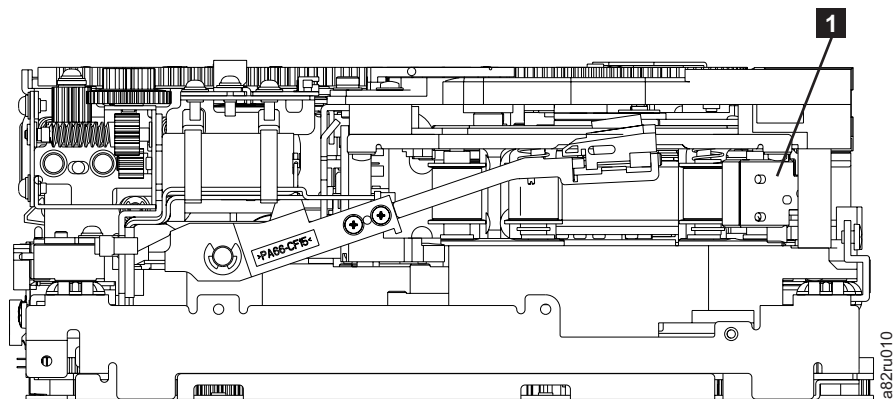

Figure 168. Leader Block Assembly (LBA)
- 7. Rotate the threader motor worm gear ( **4** in Figure 167 on page 281) to turn the threader mechanism gear ( **6** in Figure 167 on page 281) counterclockwise. This moves the LBA out of the cartridge and past the read/write head. Stop this rotation when the LBA is near the tape guide roller nearest the rear of the drive ( **1** in Figure 168).